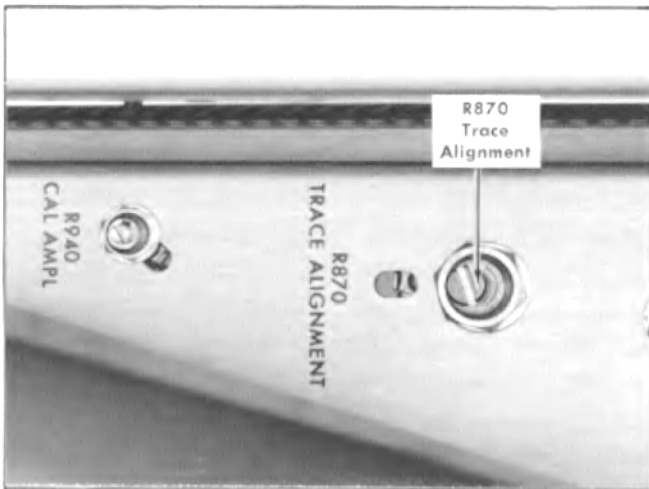

Fig. 6-17. Location of Trace Alignment Adjustment (Calibrator and High Voltage chassis).
- d. Adjust—R870, Trace alignment (Fig. 6-17) so the trace is parallel with the center horizontal graticule line.